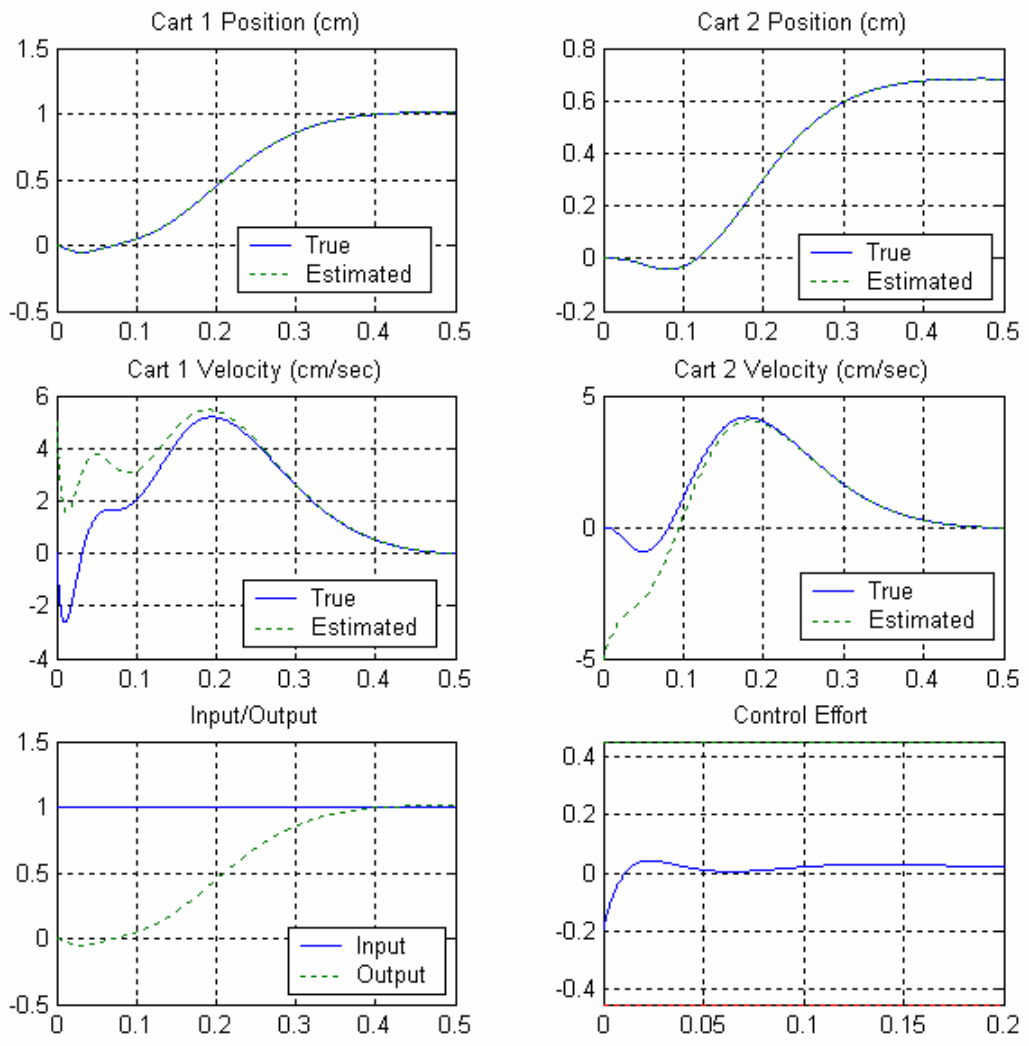

Figure 5. Results for 2b.
b) Implement (Simulink/Matlab) a minimum order state observer with state variable feedback configuration that forces the system to be a type one system for the two degree of freedom system with the state model on the web. Assume the position of both carts is known and we want to control the position of the first cart. For this problem assume we have arranged the states as **[position of first cart, position of second cart, velocity of first cart, velocity of second cart]**. Assume the estimated initial velocity of the first cart is 5 cm/sec and the estimated initial velocity of the second cart is -5 cm/sec. Place the state feedback poles at $\mathbf{p} = [-15 \ -20 \ -25 \ -30 \ -40]$ and the observer poles at $[-15 \ -20]$. You should get results similar to those displayed in Figure 5. Turn in your plot and Matlab/Simulink code.